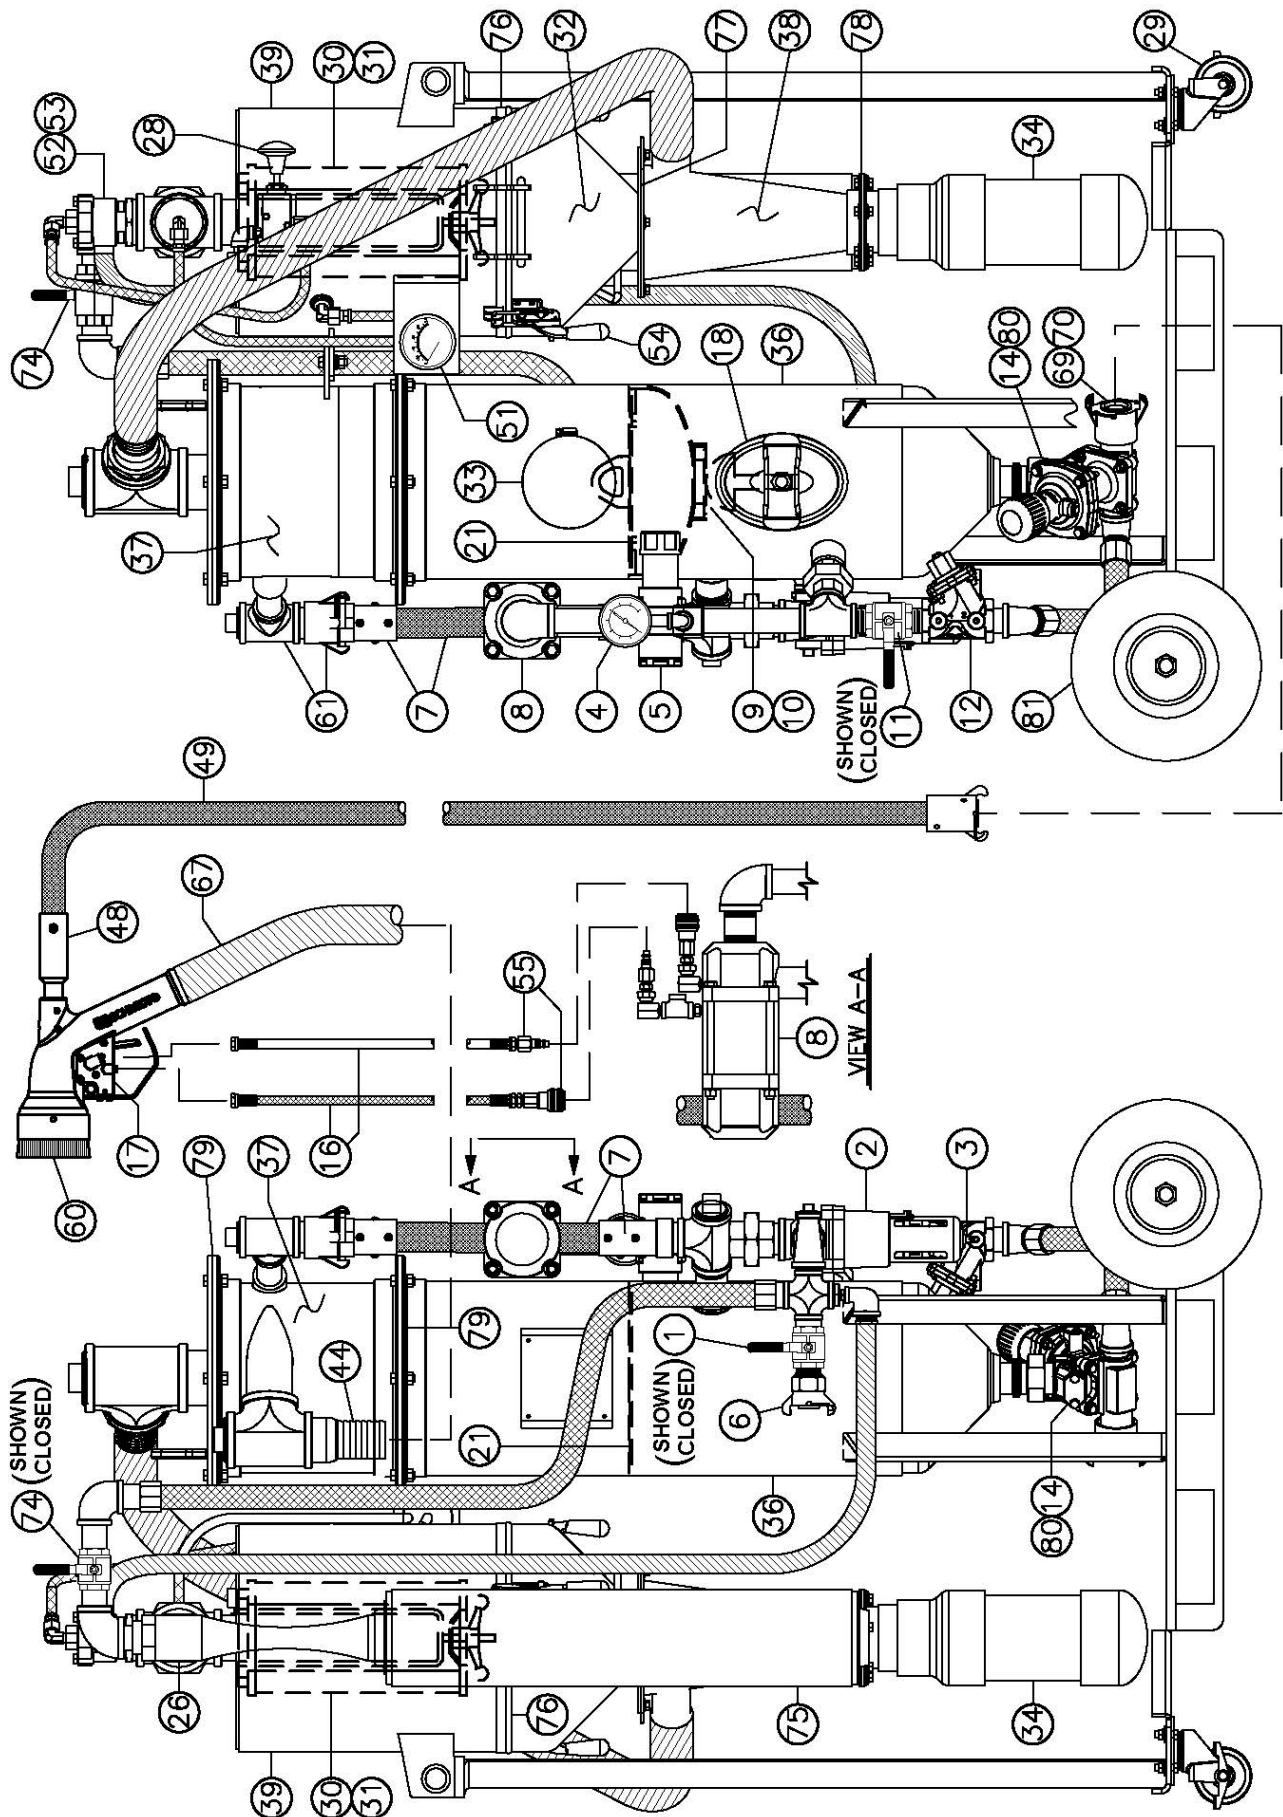

Figure 6.1 – Typical MiniBRS™ Abrasive Blaster
6.1 MiniBRS Abrasive Blaster Setup Procedure (see Figure 6.1)
6.2.2. The MiniBRS abrasive blast system will automatically depressurize when the deadman lever (#17) is released. The blast vessel air pressure will exhaust through the blowdown hose (#7) and into the reclaim hopper (#37). See Figure 6.1.